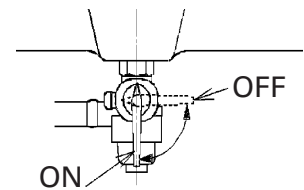

Fig.12 FUEL VALVE LEVER POSITION
3. Open the fuel valve by turning the petcock clockwise to the vertical position as shown in Fig.12.
3. Close the fuel valve by turning petcock counterclockwise to the horizontal position shown in Fig.12.
3. Ensure that the fuel petcock is open. The fuel petcock is open when the lever is perpendicular to the ground (straight up and down as in Fig.12).